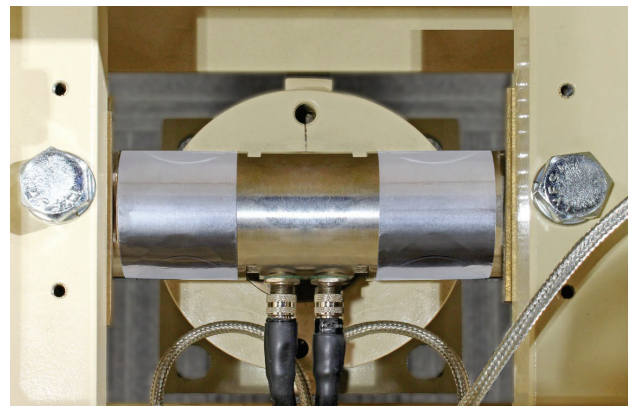

Figure No. 2
5. Repeat steps 3 and 4 for the load cell covers on the other end of the load cell. See Figure No. 2.